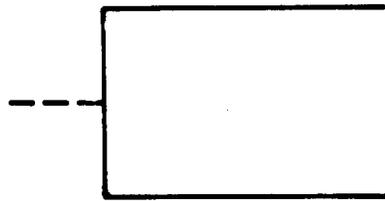

Fig. 18—Annotation Symbol
2.18 *The annotation symbol* (Fig. 18) represents the annotation function; that is, the addition of descriptive comments or explanatory notes as clarification. The broken line is connected to any symbol at a point where the annotation is meaningful by extending the broken line in whatever fashion is appropriate.